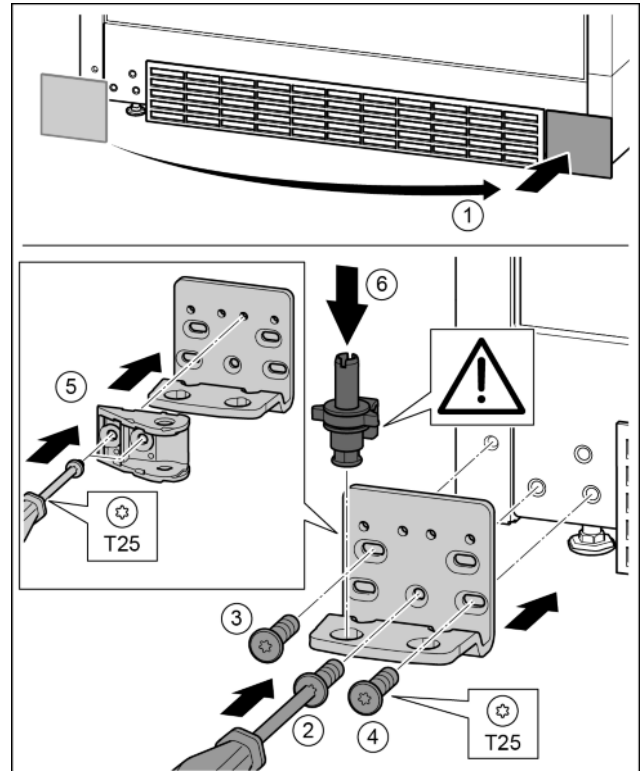

Fig. 30
- ▶ Remove the cover and fix onto the other side. Fig. 30 (1)
- ▶ Place the bearing bracket on the other side and screw in with the T25 screwdriver. Start with screw 2 at the bottom in the middle. Fig. 30 (2)
- ▶ Screw in screws 3 and 4. Fig. 30 (3, 4)
- ▶ Rotate the door mount 180°. Screw in with a T25 screwdriver on the other side of the bearing bracket. *Fig. 30 (5)*
- ▶ Insert the bearing bolts completely. Ensure here that the catch mechanism points backwards. *Fig. 30 (6)*